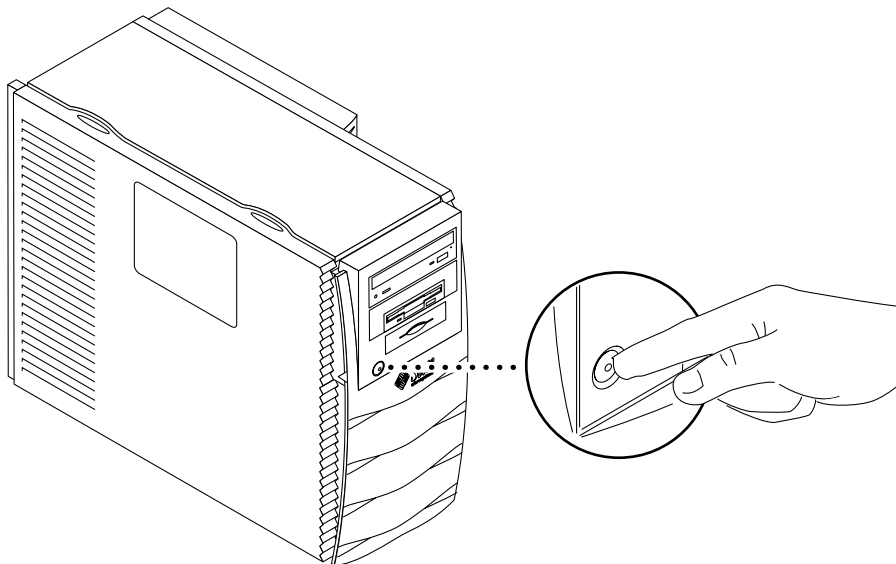

FIGURE 6 Powering off the System
- a. Press and immediately release the front panel Power switch (see FIGURE 6) to automatically shut down all programs and the operating system, and to power off the workstation.**
- a. **Press the front panel Power switch** (see FIGURE 6) **to power off the workstation.**
- a. **Press and hold the front panel Power switch for four seconds** (see FIGURE 6) **to power off the workstation.**